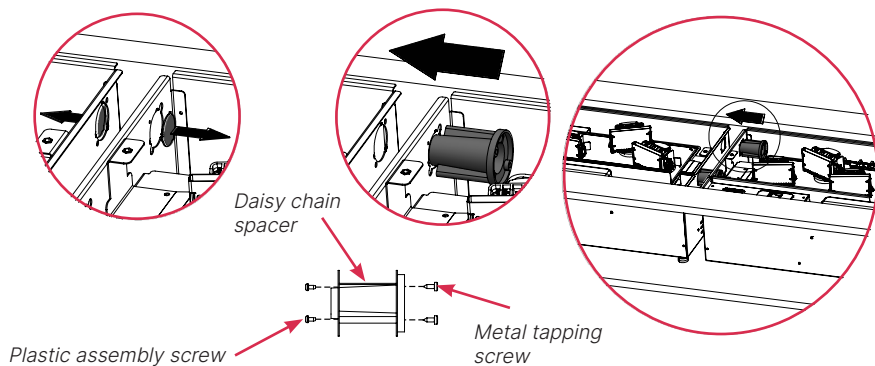

Fig.11
34. Press the mains switch to the 'ON' (I) position (Fig.11).